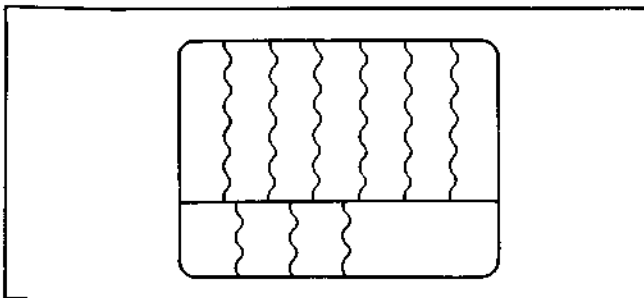

Fig. 1-7.
2. Be sure to install the fan on the drum prior to the tape playback check or the electrical system alignment. If the check or the alignment is performed without the fan installed, the picture on the monitor may bend, as shown in Fig. 1-7.